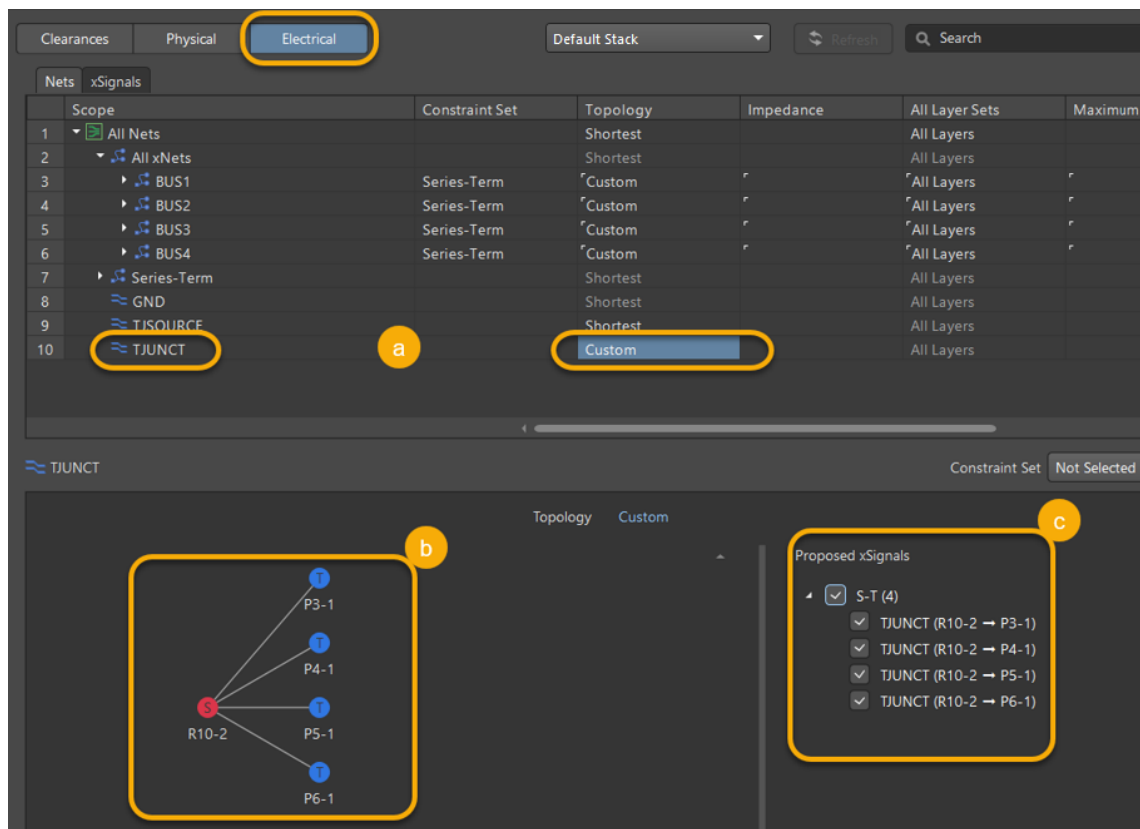

Figure 21. Topology for TJUNCT
- b) Define the topology as shown in Figure 21 by **Right-click » Add Node**